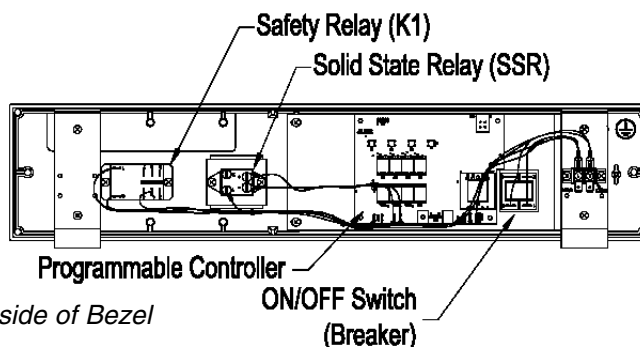

Figure 3 Inside of Bezel
2. Remove the all wires from the defective controller by carefully prying the terminals off the controller tabs (see Fig. 3).
2. Consult the schematic and locate the solid state relay mounted on bezel (see Fig. 3).
2. Consult the schematic and locate the safety relay (mounted on Bezel, see Fig. 3).